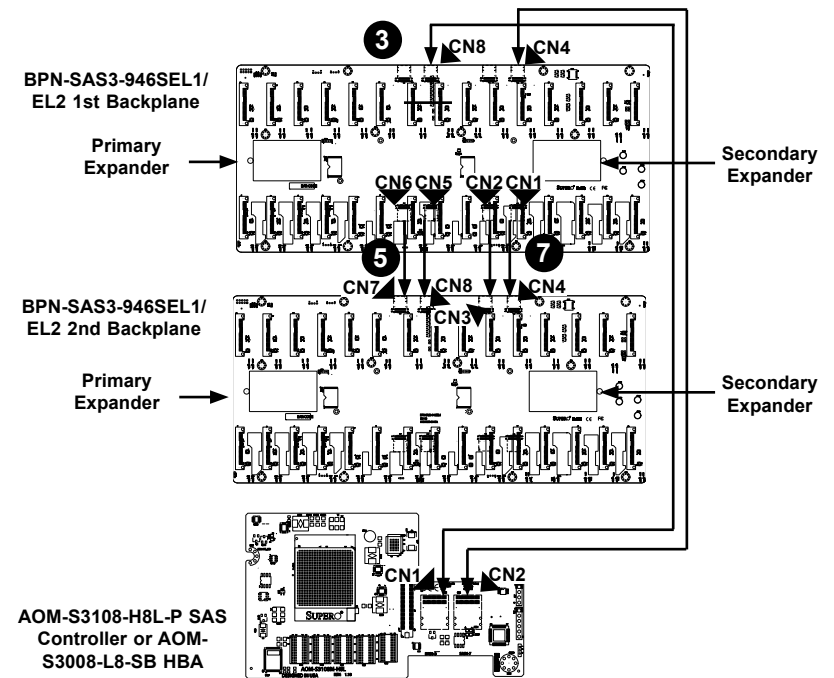

Figure 3-2. Backplane Cascading Configuration (EL2 Version)
3. Plug the cables into connector CN8 and CN4, then route the cables to connectors CN1 and CN2 on the underside of the AOM-S3108-H8L-P SAS controller as illustrated in Figure 3-2.
5. Connect the cables to CN5 and CN6, then route them to CN7 and CN8 on the underside of the 2nd backplane as illustrated in Figure 3-2.
7. Connect the cables to CN1 and CN2, then route them to CN3 and CN4 on the underside of the 2nd backplane as illustrated in Figure 3-2.